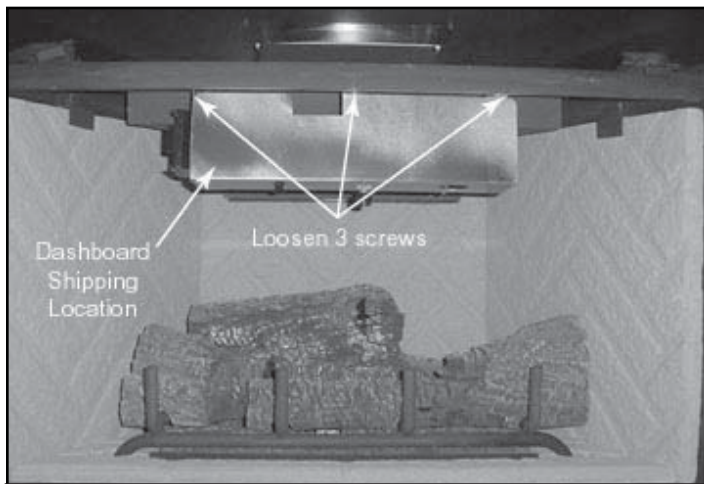

Figure 12.1 Dashboard Shipping Location
- Remove the dashboard (located in the upper firebox, center, attached with three screws). See Figure 12.1.